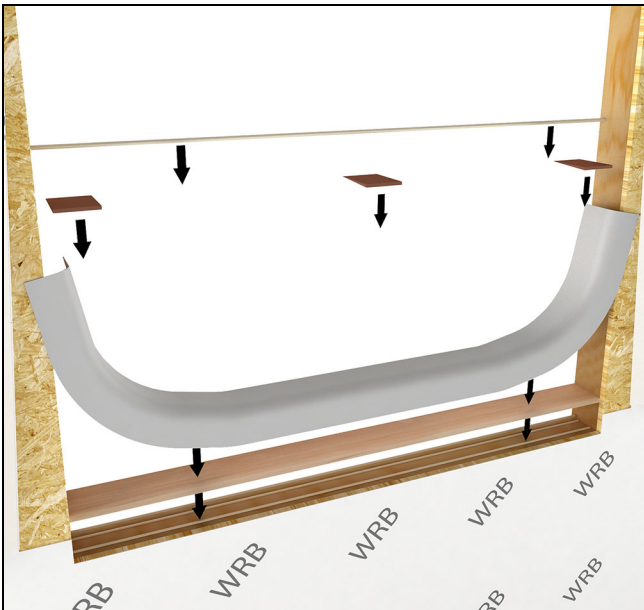

Figure 10
1. The method shown below is Method A1 using a TYPE III flash pan. For step by step instructions on how to prepare an opening using this method, refer to instructions online, titled "Window Rough Opening Prep and Flashing Method A1-Membrane Drainage System". Refer to ASTM E2112-07 for other rough opening preparations that are more appropriate for your situation. See Figure 10.